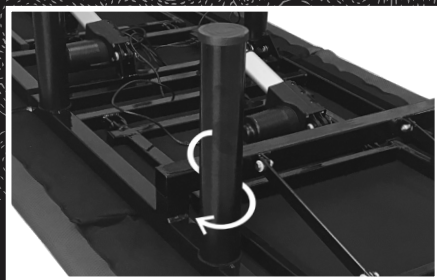

Figure 2
Install (D) six legs firmly into the base of the frame. The legs screw into the threaded holes in each corner of the frame. (See Figure 2.) Do not overtighten.